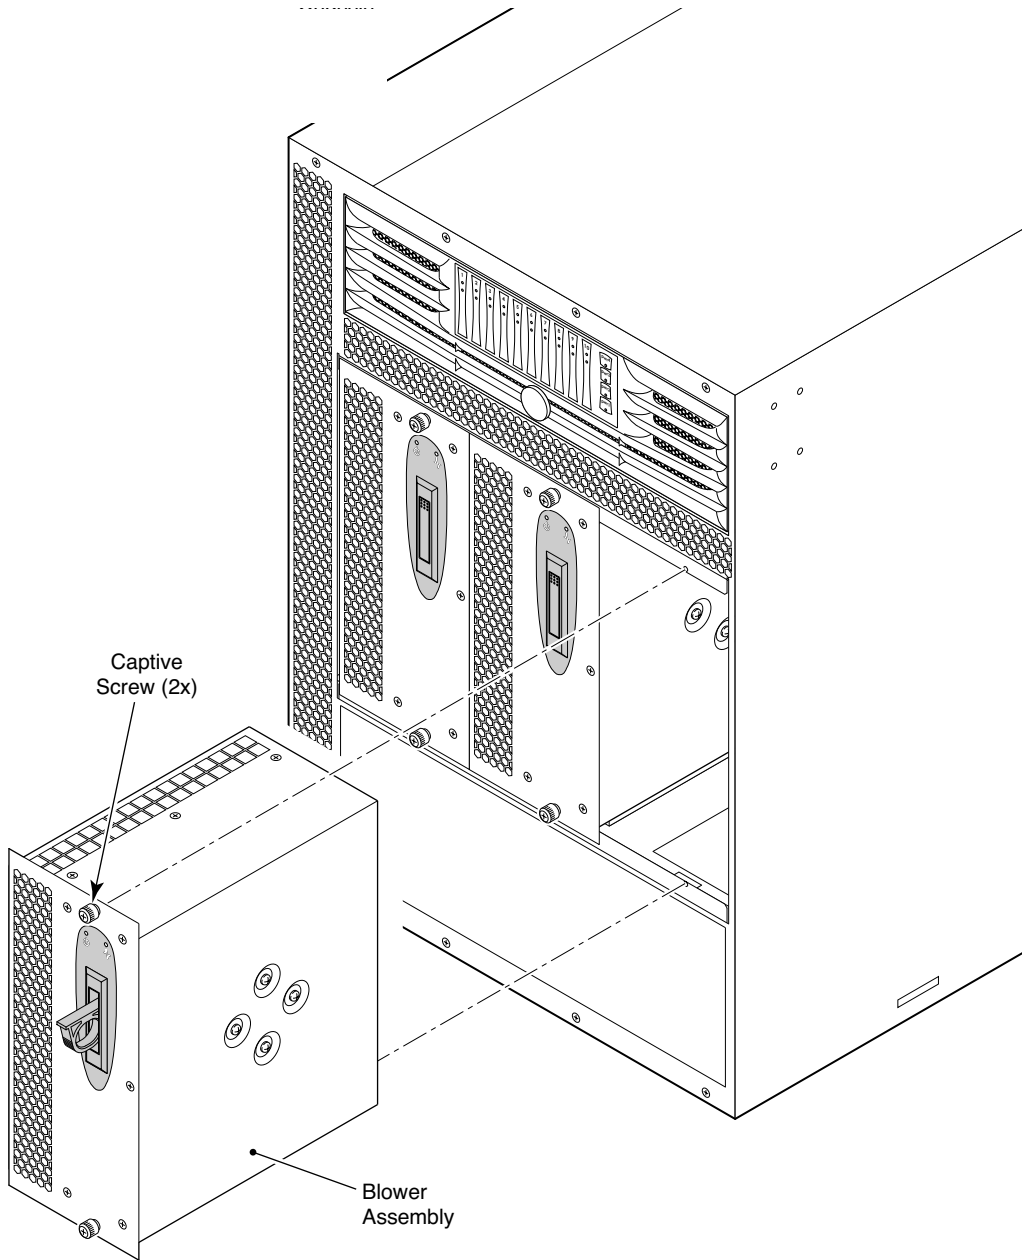

Figure 27 Blower assembly removal and replacement
- a. Orient the blower assembly as shown in Figure 27 and slide it into the chassis, pushing firmly to ensure that it is seated.